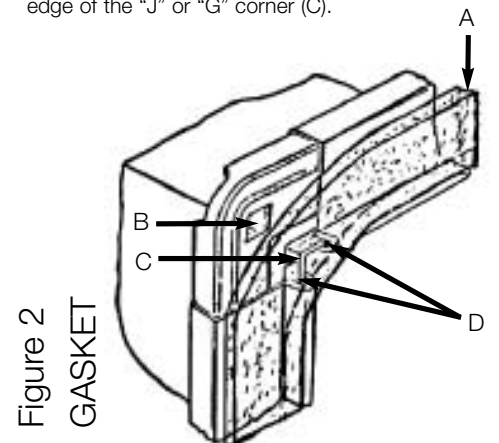

Figure 2
7. Apply gasket. (To reduce damage, apply gasket in the field.) (See Figure 2)